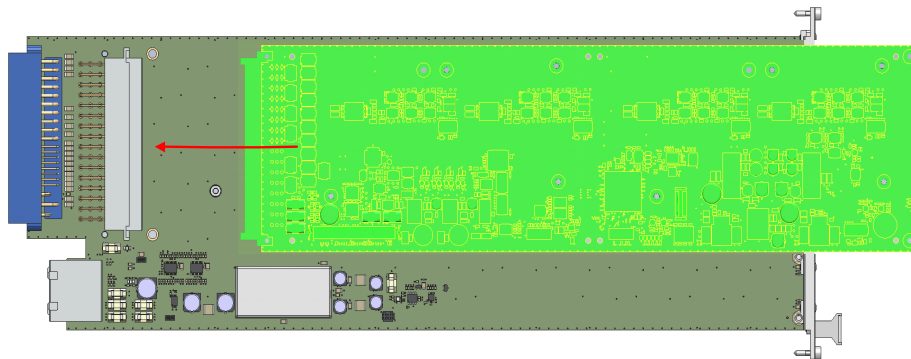

Fig. 2-7 Installation of an ES4455.2 (light green) in the ES5372.1-B
2. Guide the ES4455.2 (light green) at an angle from the top onto the ES5372.1-B and connect the plug connectors (Fig. 2-7).